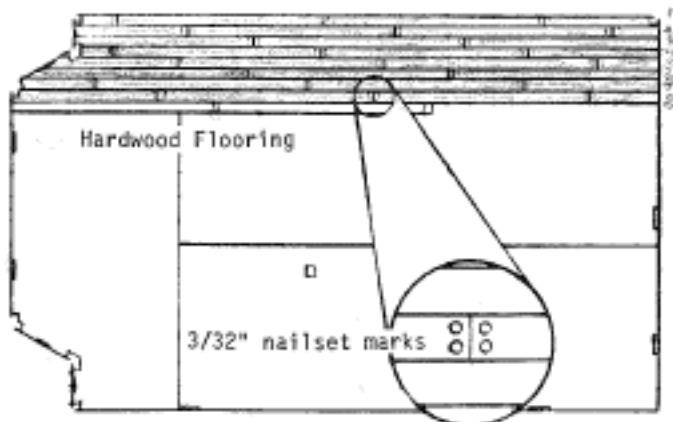

Figure 6
3. Start laying the hardwood strips at the back of the house and work toward the front. Cut the strips with scissors. Off-set the joints as shown in Figure 6.
5. To achieve a pegged appearance, punch the ends of each strip with a 3/32" nail set as in Figure 6.